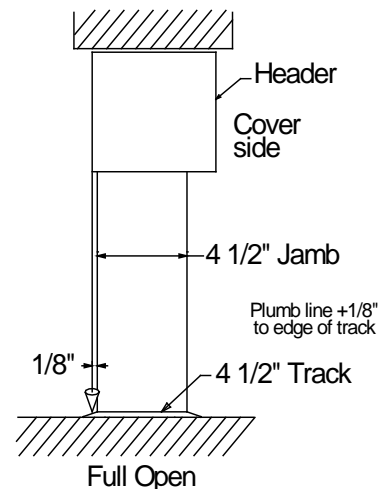

Figure 9
4. Locate track flush with the chalk line. Check floor track location with plumb bob from the header. It should be 1/8" inset from the header. (See Figure 9)